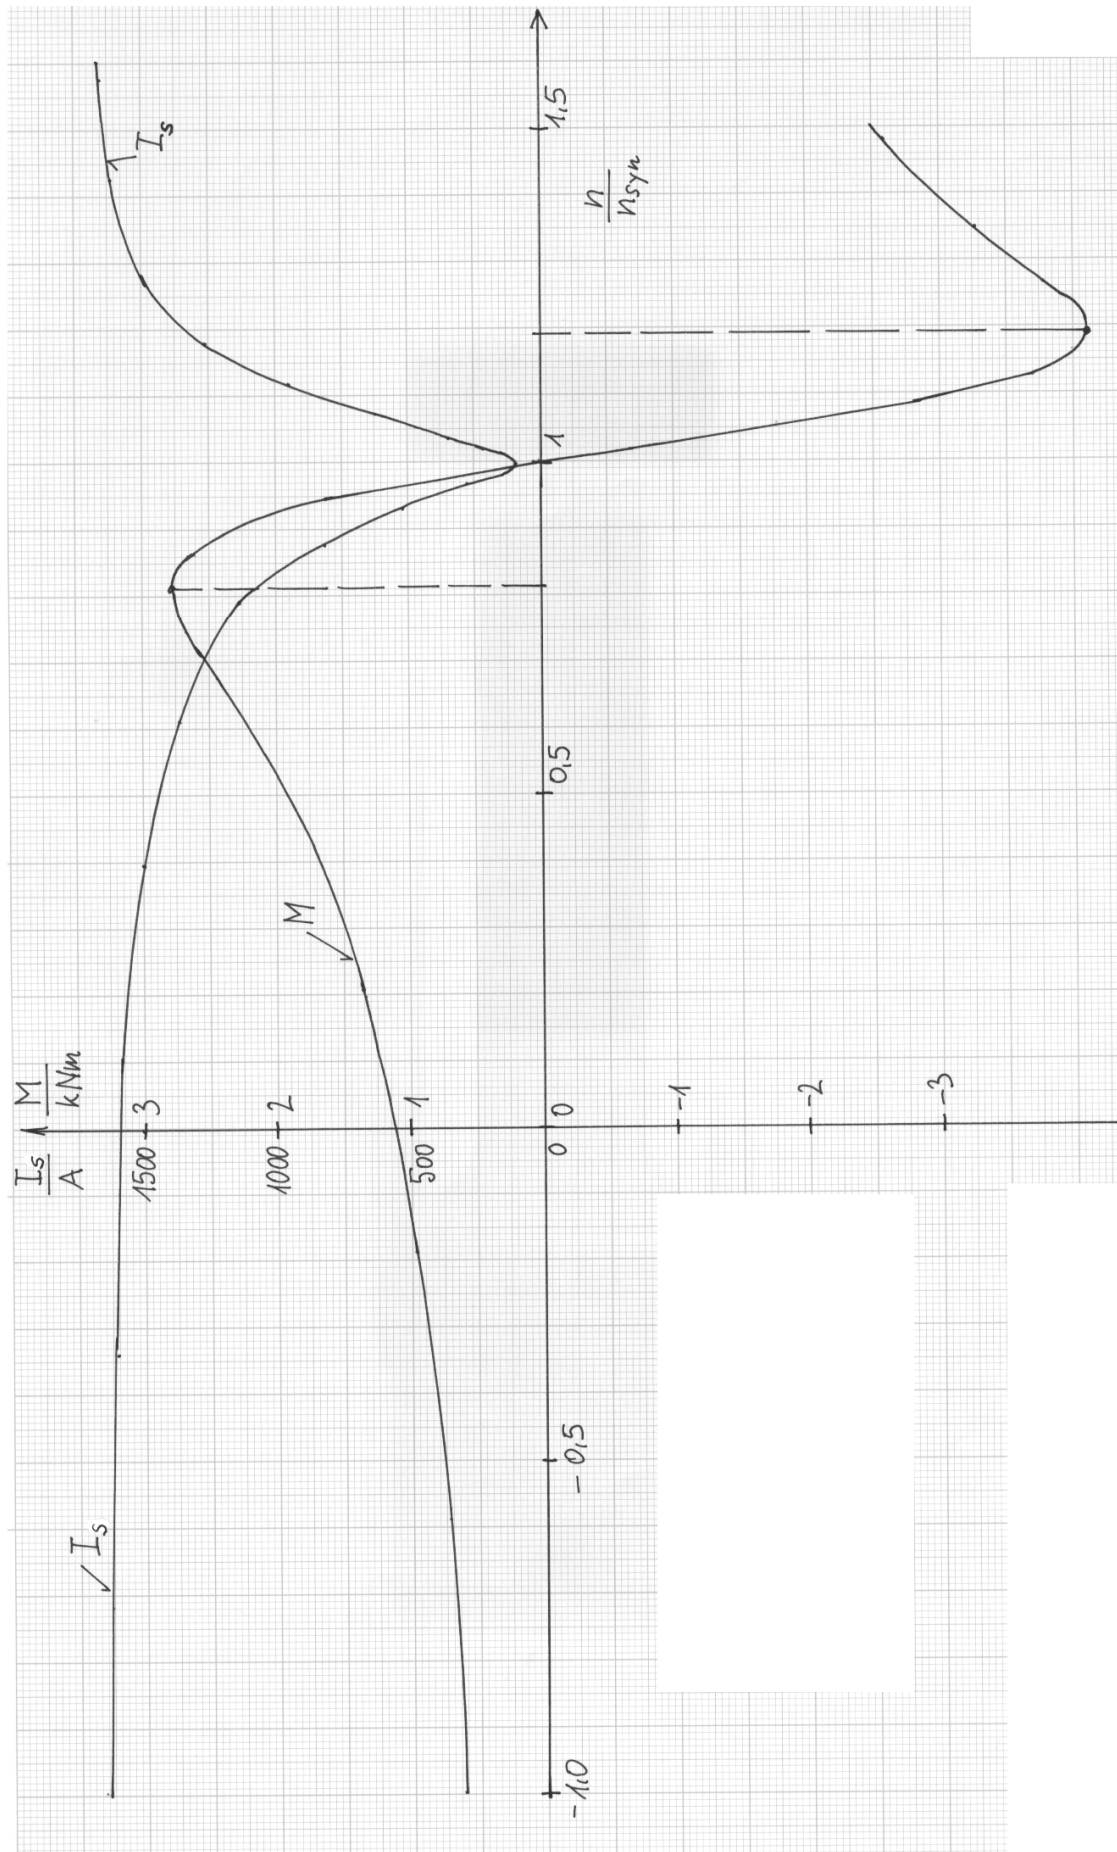

Fig. 2.9-3: Measured characteristics  $M = f(n/n_{syn})$  and  $I_s = f(n/n_{syn})$  for short-circuited rotor at rated voltage
The measured characteristics  $M = f(n/n_{syn})$ ,  $I_s = f(n/n_{syn})$  for short-circuited rotor are shown in Fig. 2.9-3.
- 1)  $M = 2.5 \text{ kNm}$  occurs according to Fig. 2.9-3 at slip  $s_1 = 0.12$  and  $s_2 = 0.3$ . With  $s_1 = 0.12$  as selected slip/Torque for starting, the accelerating torque for  $0 < s < 1$  is steadily decreasing from starting value  $M_1 = 2.5 \text{ kNm}$ , while for  $s_2 = 0.3$  torque increases up to  $M_b$ ! So starting is quicker and more powerful. So  $s_2 = 0.3$  is chosen.
- 2) Starting current  $I_{s1}$ : According to graph in Fig. 2.9-3 we get  $I_s(s_2 = 0.3) = \underline{\underline{1250 \text{ A}}}$
- 3)  $I_{sN} = 264 \text{ A} \rightarrow s_N = 3\%$  according to graph (Fig. 2.9-3).
Braking torque:  $M(s = 0,58) = M_{brake} = \underline{\underline{1700 \text{ Nm}}}$  according to the characteristic Fig. 2.9-3.
- 5) Fig. 2.9-3 gives at  $s_N = 3\% \rightarrow M_N \approx 900 \text{ Nm}$  ! Mechanical output power is only smaller than electrical input power due to losses.